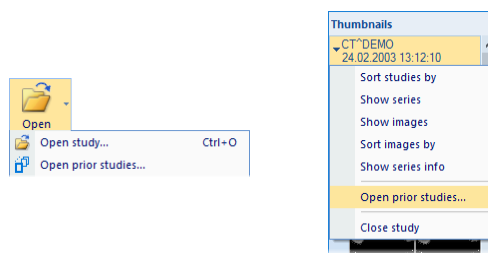

Figure 113 – Display Open prior studies dialog, using Open context menu, b) using thumbnail palette
- Display any image of the base study in the current view and select the **Open prior studies...** item in **Study** main menu or the **Open prior studies...** item in **Open** context menu in the main toolbar (see Figure 113 a)
- or click on the thumbnail in the thumbnails palette, belonging to the base series, and select **Open prior studies...** item in the context menu (see Figure 113 b).